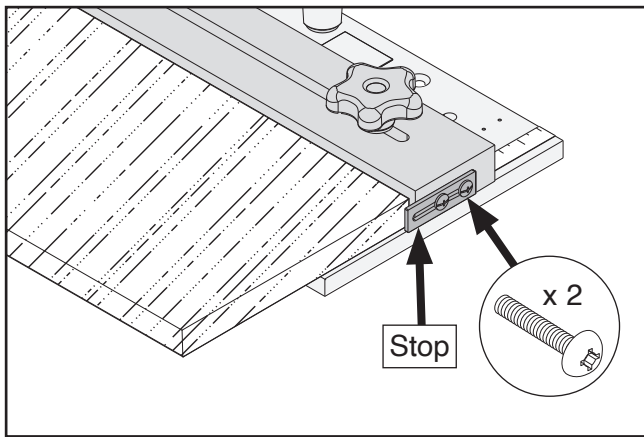

Figure 25. Location of adjustable stop screws.
9. Loosen adjustable stop screws, adjust stop as far out as the operation allows to provide as much workpiece support as possible (see **Figure 25**), then tighten screws to secure.